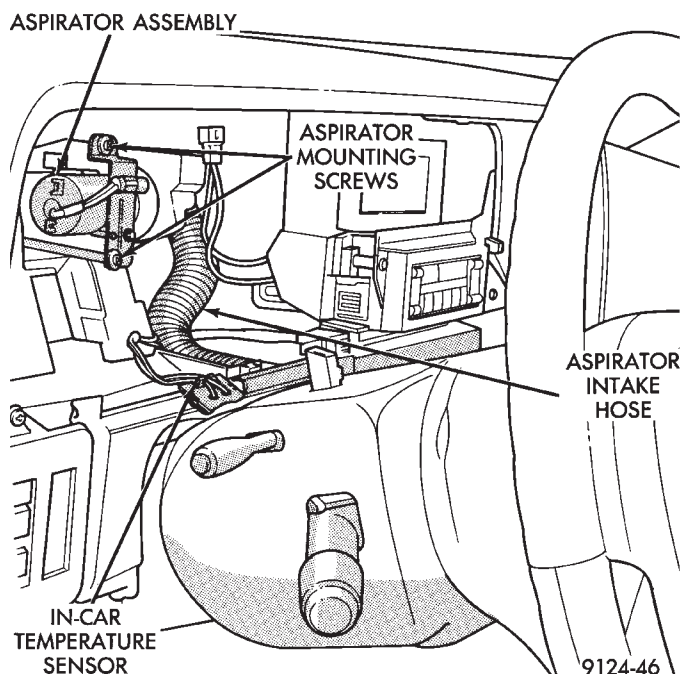

Fig. 10 In-Car Temperature Sensor/Aspirator Assembly Removal and Installation
- (1) Remove the instrument cluster assembly. Refer to Cluster and Gauge Service section in Group 8E.
- (2) Un-snap the sensor from the instrument panel (Fig. 10).
(3) Remove the two aspirator mounting screws (Fig. 10).
(4) Disconnect the aspirator intake hose from the instrument panel (Fig. 10).
(5) Remove sensor/aspirator and its wiring harness from vehicle.